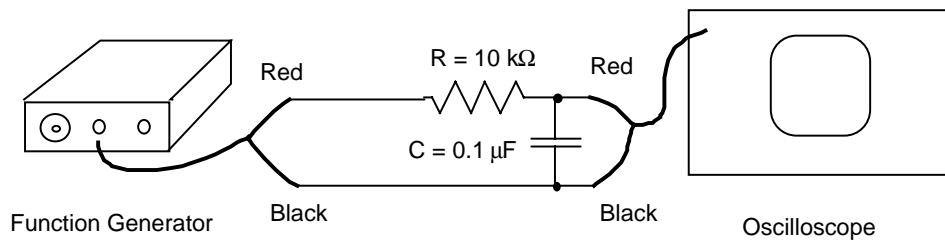

Figure 5. Investigating an RC circuit
- Assemble the circuit shown in Figure 5.